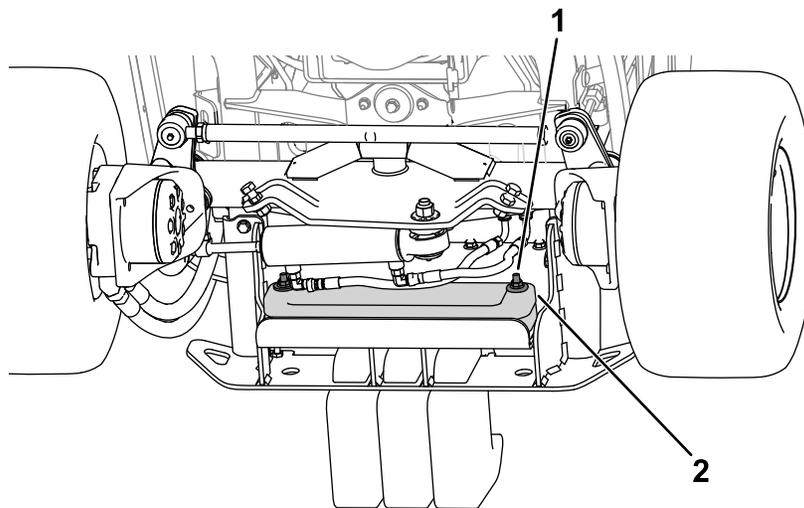

Figure 19
2. Use the hardware to secure the weights to the bumper (Figure 19).